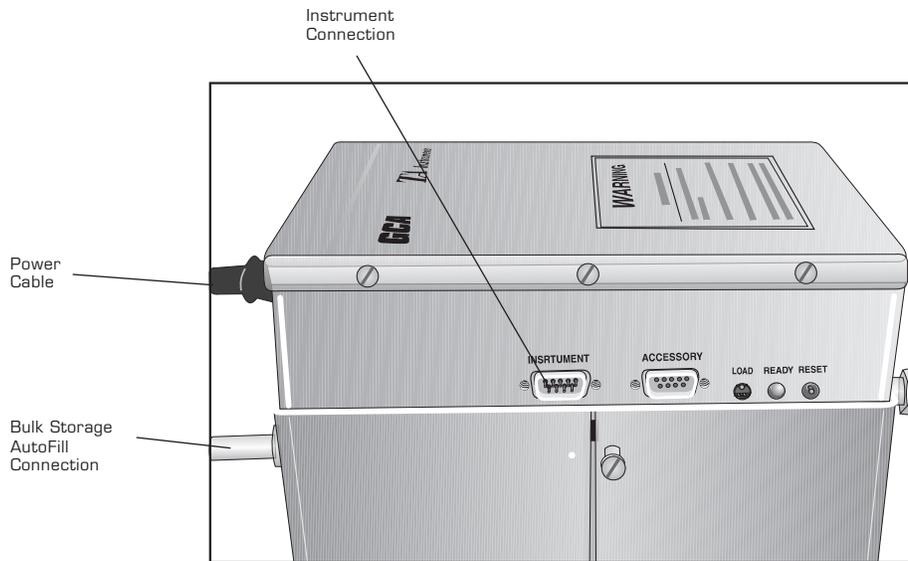

Figure 3.1
Follow the directions below to fill the GCA manually. Refer to Figures 3.1 and 3.2 for the location of the items called out in the procedure.
2. Turn off the POWER switch on the GCA and disconnect the power cable (cable shown on Figure 3.1, page 3-8).
3. Disconnect the controller interface cable from the INSTRUMENT connection (connection shown on Figure 3.1, page 3-8).
12. Reconnect the interface cable to the INSTRUMENT connection and plug in the power cord. (See Figure 3.1 on page 3-8.)